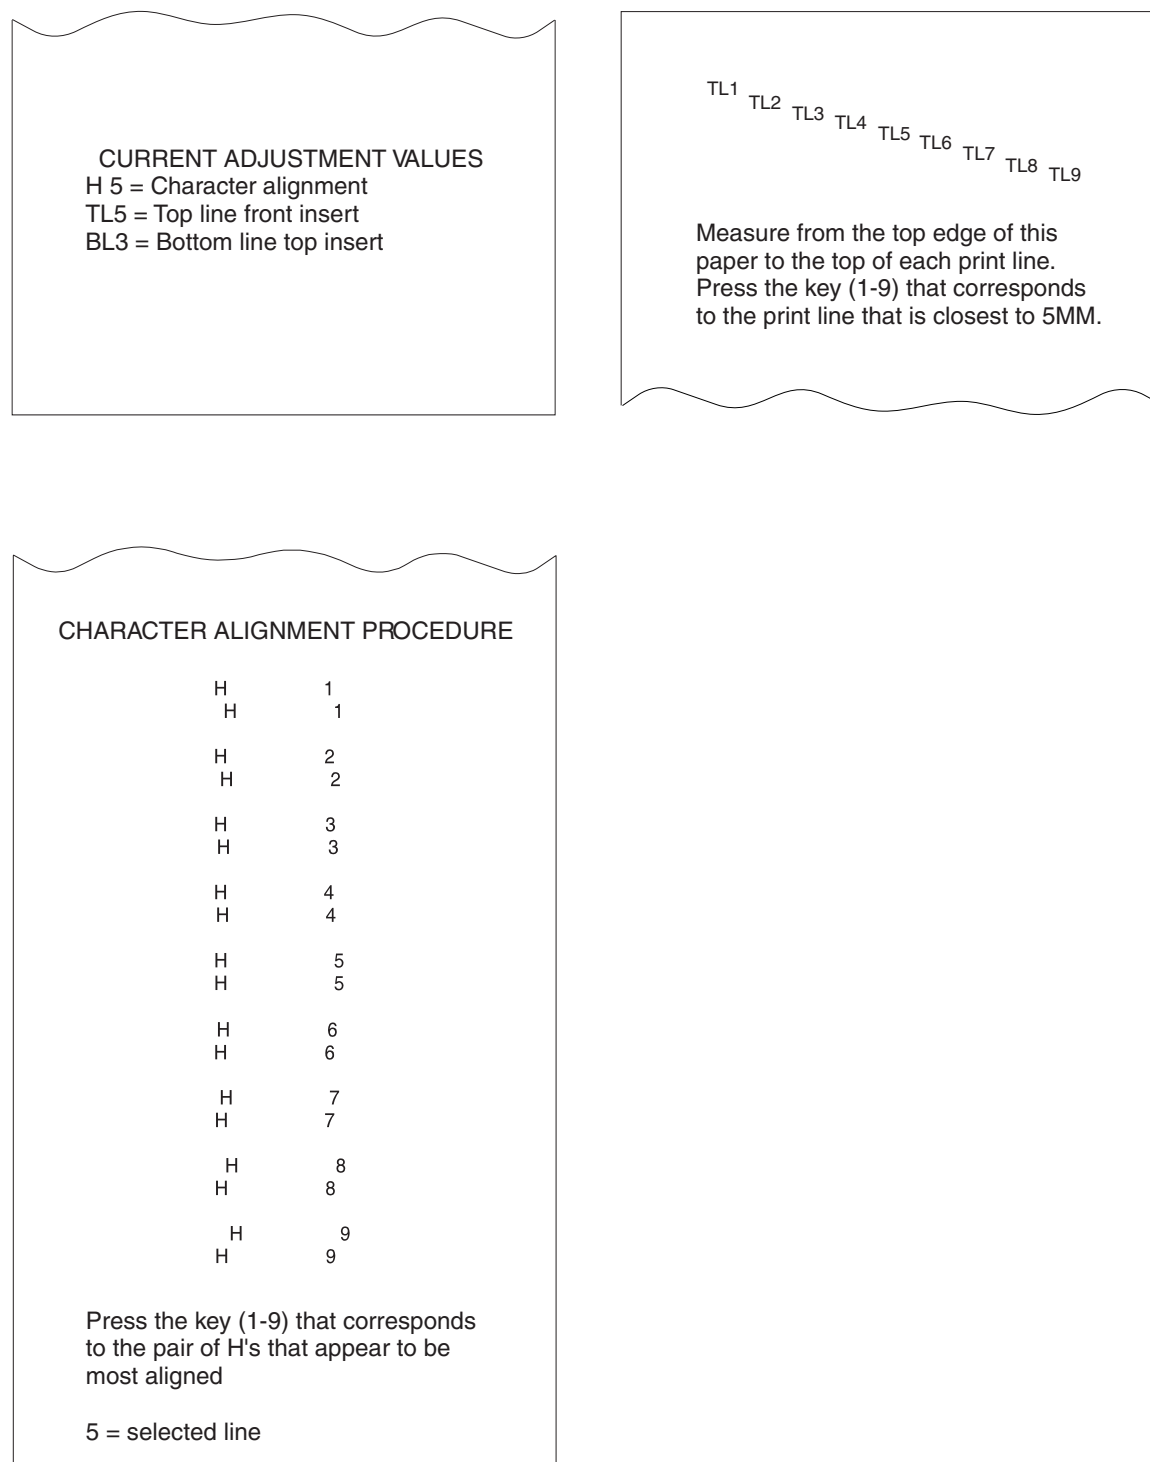

Figure 16. Adjustment and Alignment Printouts
- Print current adjustment values - see Figure 16 on page 37.
- Character alignment procedure - see Figure 16 on page 37.
- DI front load print line adjustment - see Figure 16 on page 37.
- Document landscape adjustment - see Figure 16 on page 37.